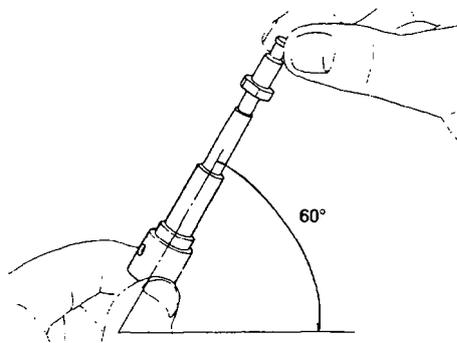

Figure 75 Checking the Plunger for Smooth Operation
- g. Lubricate each barrel and plunger assembly in clean diesel fuel. Check that each plunger slides smoothly into the barrel under its own weight when the assembly is inclined at 60 degrees (Figure 75). Rotate the plunger slightly several times and check each time that the plunger slides smoothly into the barrel. Replace the barrel and plunger assembly if the plunger fails to slide smoothly into the barrel.